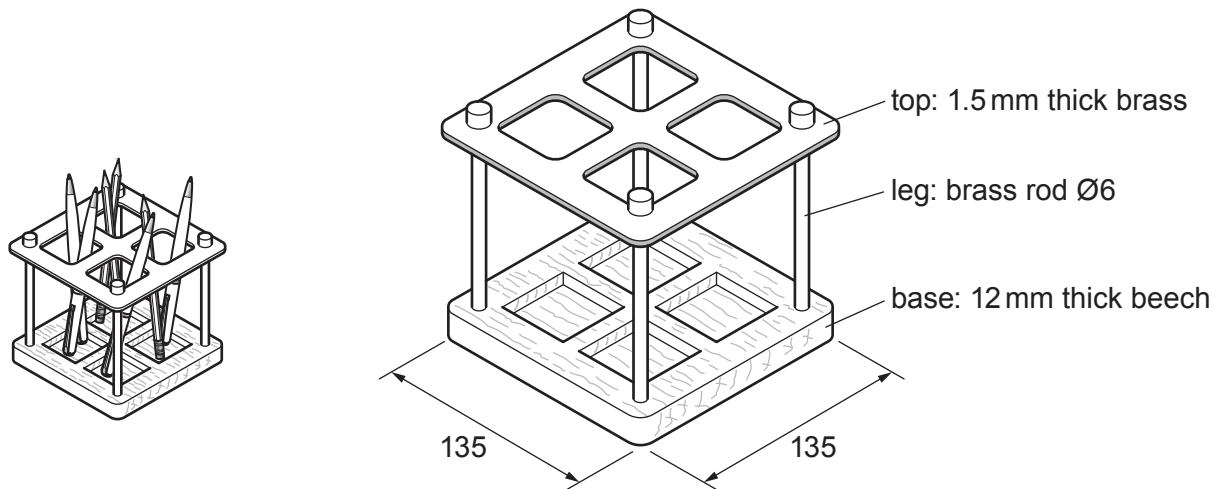

Fig. 11.1
- 11 Fig. 11.1 shows a pen and pencil holder.
- (d) Use sketches and notes to show a modification to the design of the pen and pencil holder shown in Fig. 11.1 that would make it easier to carry. Name all materials and constructions used.